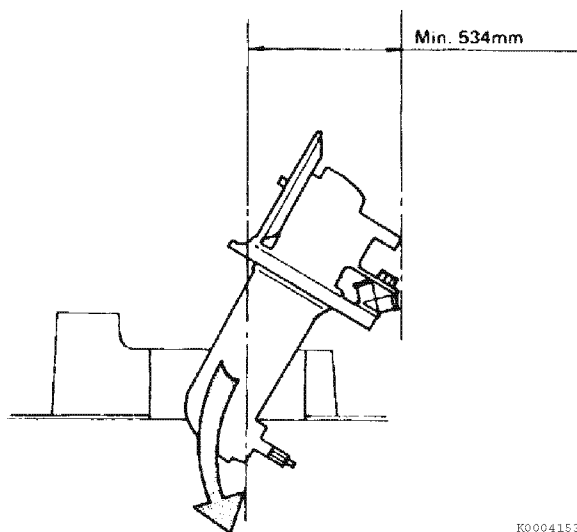

Figure 18
10. When the resin has cured, carefully pass the sail drive through the hull bottom (**Figure 18**). Loosely install the attaching hardware but do not tighten at this time.